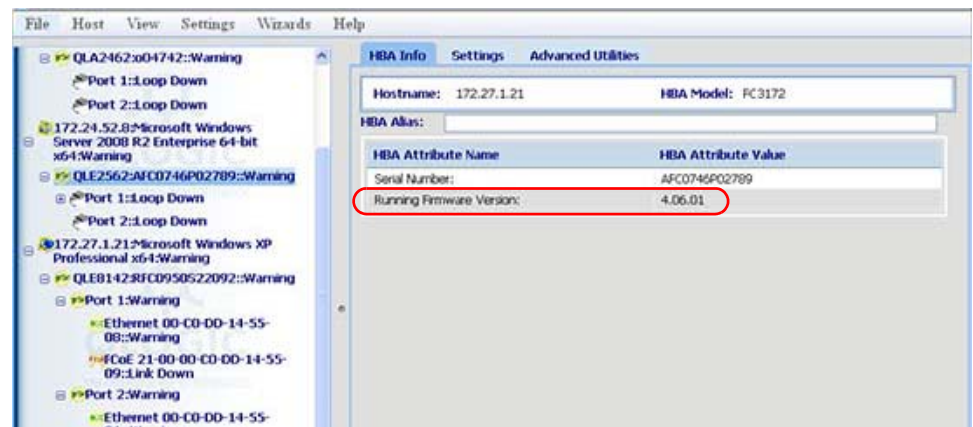

Figure 10. Firmware Version on HBA Info Page of QConvergeConsole Utility
2. Click the **HBA Info** tab. The **HBA Info** page displays as shown in Figure 10.